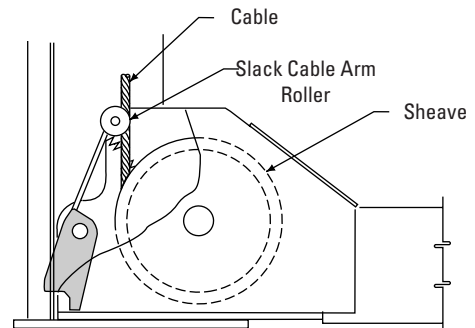

Fig. 16
**IMPORTANT** Cables must fit in slack cable arm rollers, Fig.16.